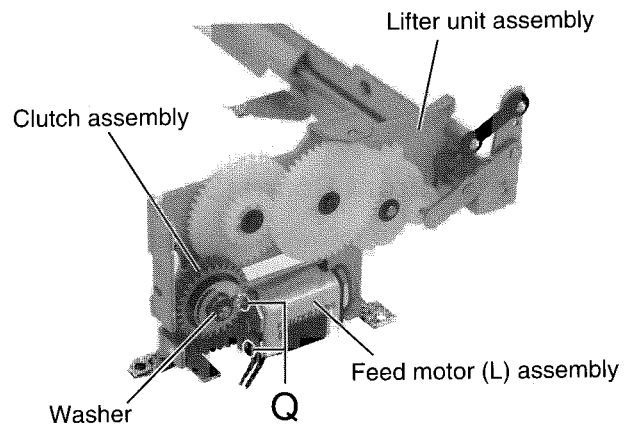

Fig.12
■ Removing the feed motor (L) (See Fig.12)